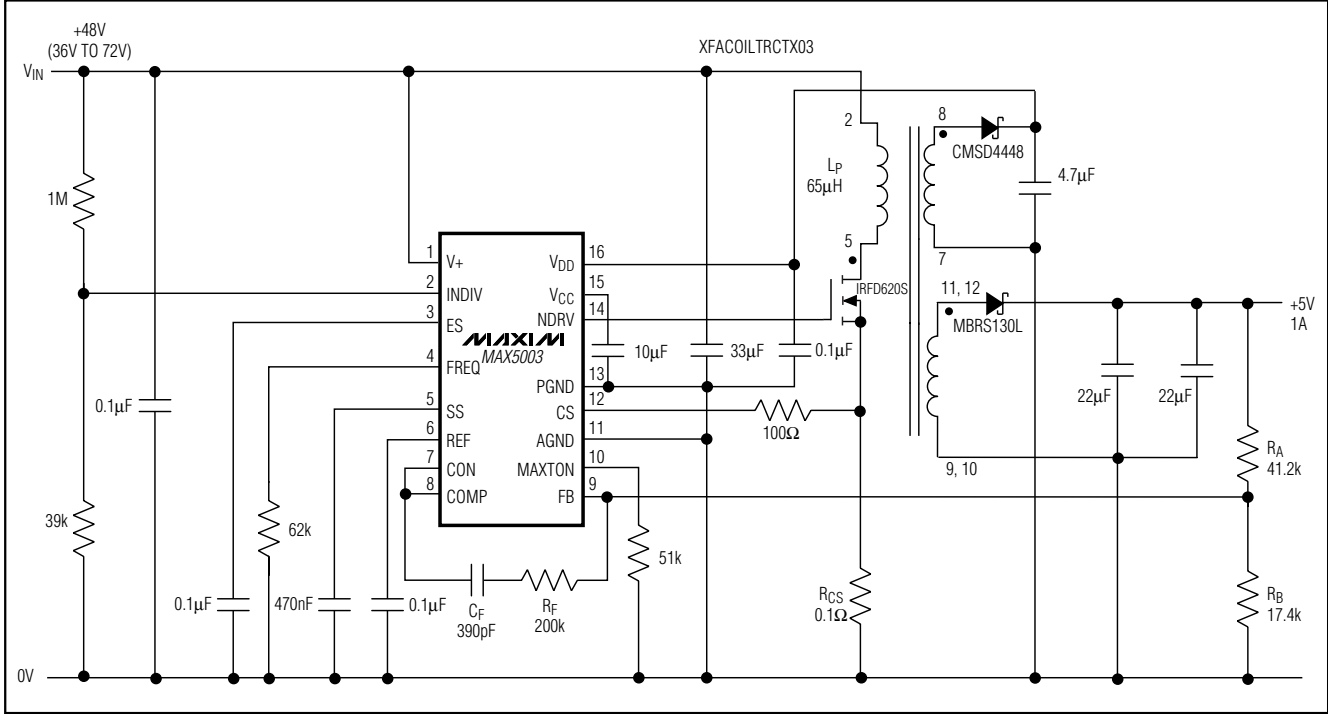

Figure 2. Application Example 1: Nonisolated +48V to +5V Converter
Choose R₂ (Figure 2) between 25kΩ to 500kΩ and calculate R₁ to satisfy the following equation:
The current-sense (CS) comparator and its associated logic limit the current through the power switch. Current is sensed at CS as a voltage across a sense resistor between the external MOSFET source and PGND. Connect CS to the external MOSFET source through a 100Ω resistor or RC lowpass filter (Figures 2 and 3). See *CS Resistor* in the *Component Selection* section.
The circuit shown in Figure 2 is essentially an energy pump. It stores energy in the magnetic core and the air gap of the transformer while the power switch is on, and delivers it to the load during the off phase. It can operate in two modes: continuous and discontinuous. In discontinuous mode, all the energy is given to the load before the next cycle begins; in continuous mode, some energy is continuously stored in the core.
Given the above considerations, R_A , R_B , R_F , and C_F can be chosen (Figure 2). The sum of R_A and R_B is chosen for low current drain. In the example, R_A plus R_B is 58k Ω and draws 80 μ A. The following ratio sets the output voltage: